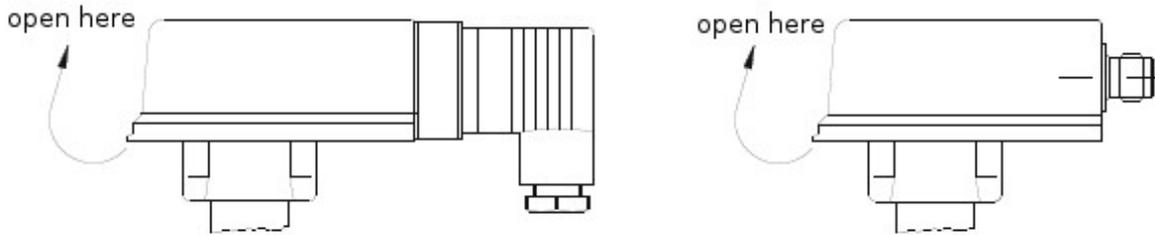

Fig. 14
Adjusting the Switching Unit (Figs. 14 to 16)
- To adjust the switching unit, the cover of the switch head must be opened (Fig. 14).